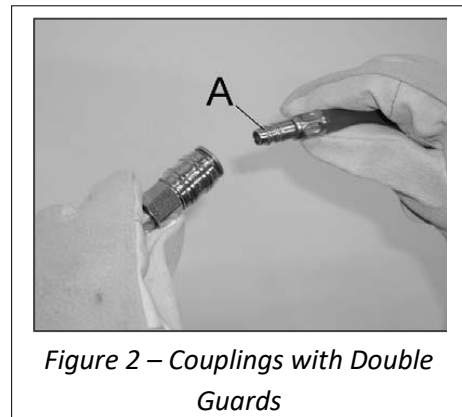

Figure 2 – Couplings with Double Guards
- The inflation hoses are equipped with couplings with double guards; they only open if the male part of the coupling is drawn and the protecting ring of the female part is pulled back simultaneously (see Figure 2)
- 5.1.2 Insert the nipple (A) in the female part of the coupling with a double guard and press to connect (see Figure 2 above).
- 5.2.2 Insert the nipple (A) in the female part of the coupling with a double guard and press to connect (see Figure 2 above).